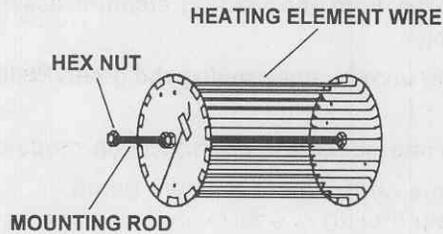

Figure 3-10. Heating element.
(12) Tap the edge of the vacuum pump cylinder cover assembly with a plastic mallet to break it free of the gasket, if required.
(13) Grasp the edge of the cylinder cover assembly with your fingers and slowly lift it and the attached heating element (fig 3-10) out of the cylinder.